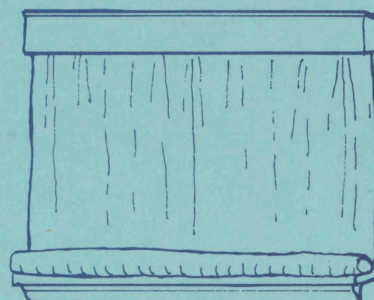

Fig 4. Draft dodger.
4. Block drafts from the bottom of the drapery with a "draft dodger," a sandfilled tube of fabric placed against the bottom edge of floor or sill length draperies (Fig 4).